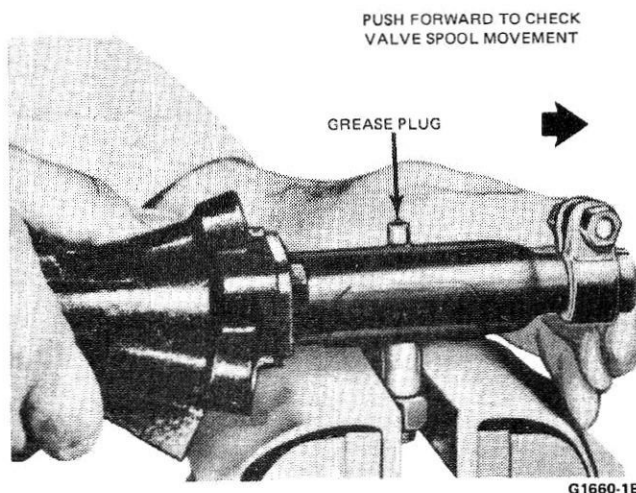

FIG. 17 Inspecting Valve Spool Movement
8. While holding the adapter plate to the housing, move the stud back and forth to check freedom of travel (Fig. 17).
11. Remove the grease plug and grease unit with .35-.55 oz. of lube ESA-M1C47-A or equivalent (Fig. 17). Do not fill beyond specification.